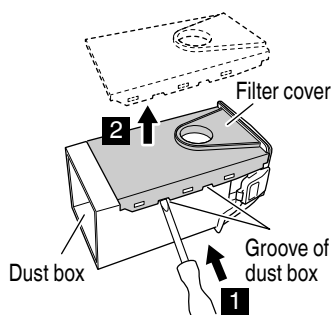

Fig. 16
6. Replacing the filter (Fig. 16, 17, 18)
- (1) Insert a flat-head screwdriver into the groove on the side of the filter cover and remove the filter cover. (Fig. 16)